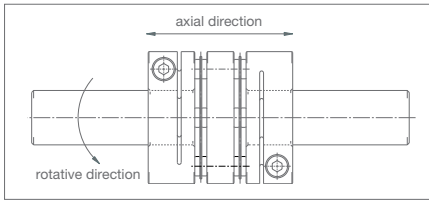

Figure 1
2. Slide the Servoflex onto the motor shaft shank. Do not force the assembly or coupling. Now proceed in the same way with the second shaft. Now please ensure that the Servoflex coupling is easy to move both axially and in its direction of rotation, and that it is unloaded (Figure 1).